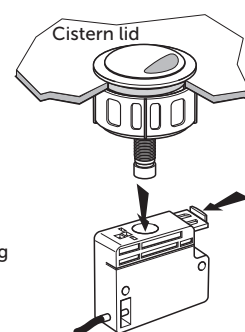

Fig. 11
- Push locking slide in and engage push button in push button box, release locking slide to lock, (Fig. 11).